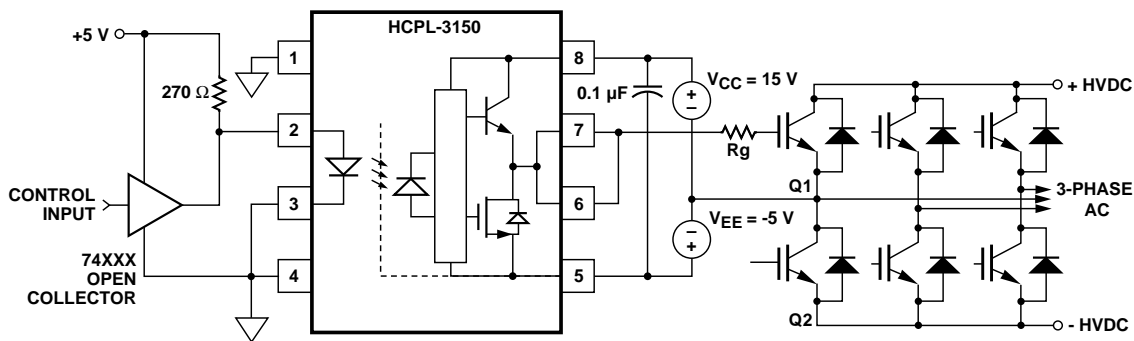

Figure 26. HCPL-3150 Typical Application Circuit with Negative IGBT Gate Drive.
Step 1: Calculate Rg Minimum From the IOL Peak Specification. The IGBT and Rg in Figure 26 can be analyzed as a simple RC circuit with a voltage supplied by the HCPL-3150.
For the circuit in Figure 26 with I_F (worst case) = 16 mA, Rg = 30.5 Ω, Max Duty Cycle = 80%, Qg = 500 nC, f = 20 kHz and T_A max = 90°C: